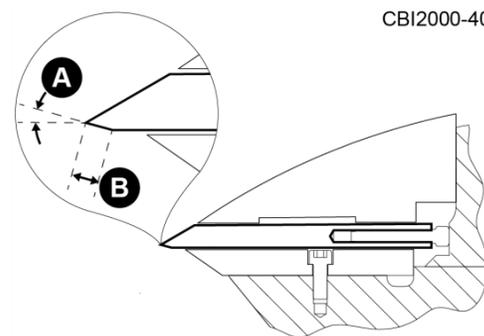

Figure 6.12 - Back-Dress knife
4. Back-Dress Knife - Using a CBI back-dressing tool (10.8VDC battery powered, part number 81610005; 12VDC powered, part number 81610007; and 120VAC powered, part number 81610006) back-dress the back edge of the knife. Remove the minimum amount of material necessary to put a sharp edge on the knife. The knife should be back-ground at a 15° angle (Figure 6.12 / A). The maximum allowable amount of back-dressing is removing $\approx 7/64"$ (≈ 2.6 mm) off of the back edge of the knife (Figure 6.12 / B).